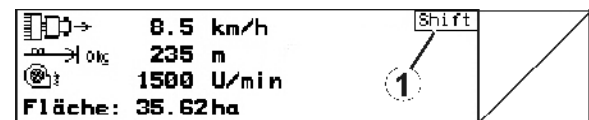

Fig. 9
- When the Shift-key is activated, this is indicated on the display (Fig. 9/1).